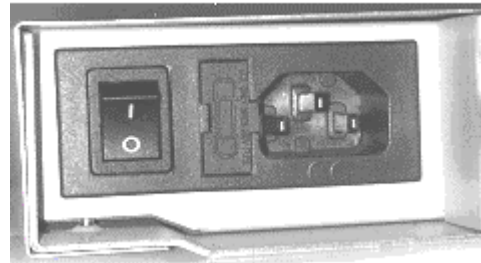

Figure 3.8 Power switch, fuse holder and power cord connection
2. Plug the power cable into the rear of the StorageLoader (see figure 3.8). Plug the other end of the cable into a properly grounded electrical outlet.